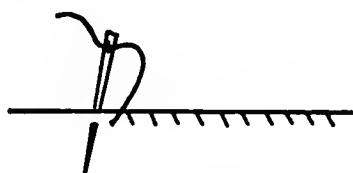

Fig. 73. Overcast stitch.
- C. Stitch diagonally about  $\frac{1}{4}$  in. apart (Fig. 73).